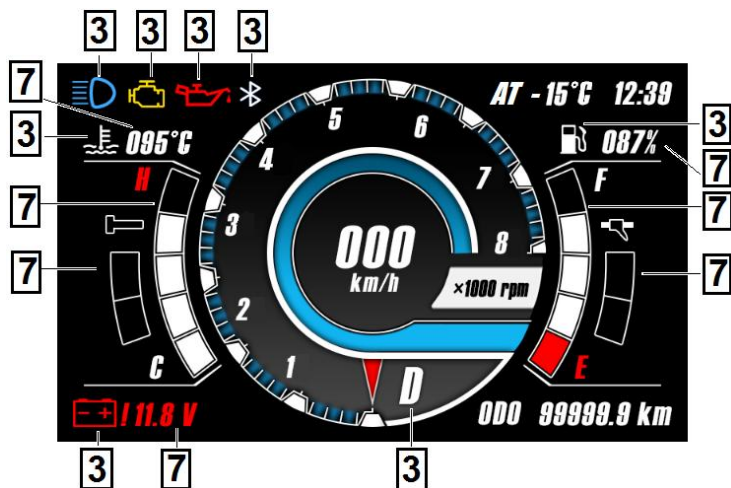

Fig. 20
The white color of the signal indicator (pos.3, Figure 20) indicates that it is inactive.
Fuel level indicator 1 - Fuel level classification indicator. 2 - Digital fuel level indicator. Displays the percentage of fuel level. The scale indicator (POS.7, Figure 20) shows the remaining fuel in the tank. If the display shows a split, please refuel the fuel as soon as possible. Operating at very low fuel levels may cause fuel module failure.
Engine coolant temperature indicator 1 - Grading indicator of coolant temperature. 2 - Digital current value of coolant temperature. The classification indicator (PO. 7, Figure 20) of coolant temperature (OH) shows the conditional value between the minimum value (C) and the maximum value (H) in the dial. When the engine OH temperature approaches the maximum value, the last red split will be displayed on the classification indicator of the engine OH temperature. When the engine OH temperature reaches the maximum allowable value, a signal indicator (POS. 3, Figure 20) (POS. 10, Table 1) that exceeds the maximum allowable engine OH temperature will be displayed. OH Temperature - Allows you to monitor the temperature status of the engine.
The voltmeter reading allows voltage control of the onboard network. Display the current on-board voltage value beside the signal indicators (pos.3, Figure 20) and (pos.3, Table 1) in this section. When the battery charging system fails or the onboard network voltage drops below the minimum value, the signal indicator will be changed to the corresponding indicator in this section (point 3, Table 1).
Throttle lever heating element operating status indicator - displays the current operating status of throttle lever heating element. The pointer is on the right side of the display (pos.7, Figure 20). There are three modes: Close. Both cells are black; First mode. A lower cell become white; Second mode. Both cells are displayed in white.
Driver handle heating element operating mode indicator - displays the current operating mode of the driver handle heating element. The pointer is on the left side of the display (pos.7, Figure 20). There are three modes: Close. Both cells are black; First mode. A lower cell become white; Second mode. Both cells are displayed in white.